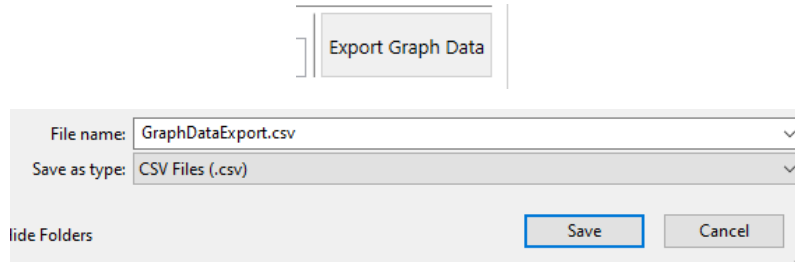

Figure 156. Save Displayed Data
4. Click on the “Export Graph Data” button (Figure 156).
5. Browse and save the file to a location (Figure 156).